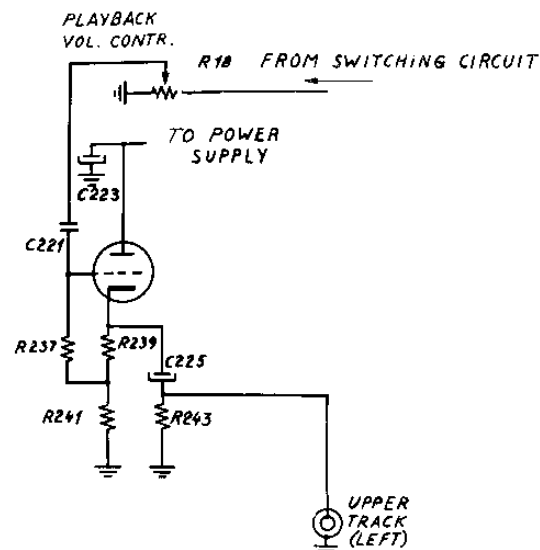

Fig. 25. Cathode Follower. (Component Numbers for Upper Track)
4.2.4 Cathode Follower. (Fig. 25).